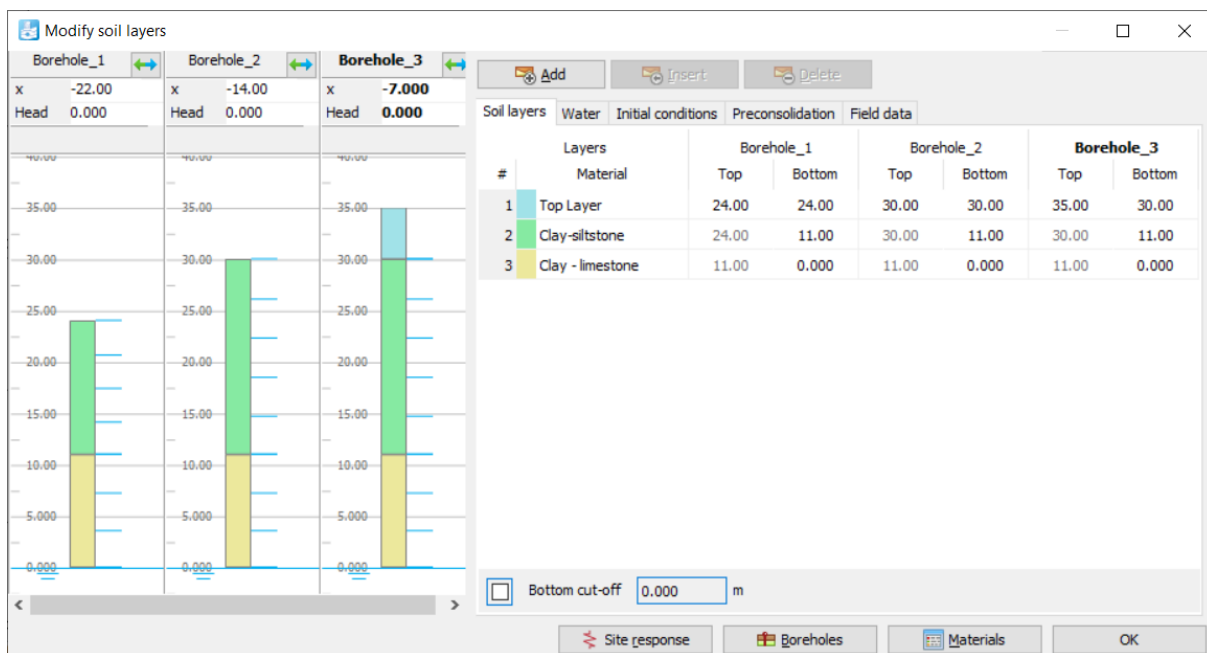
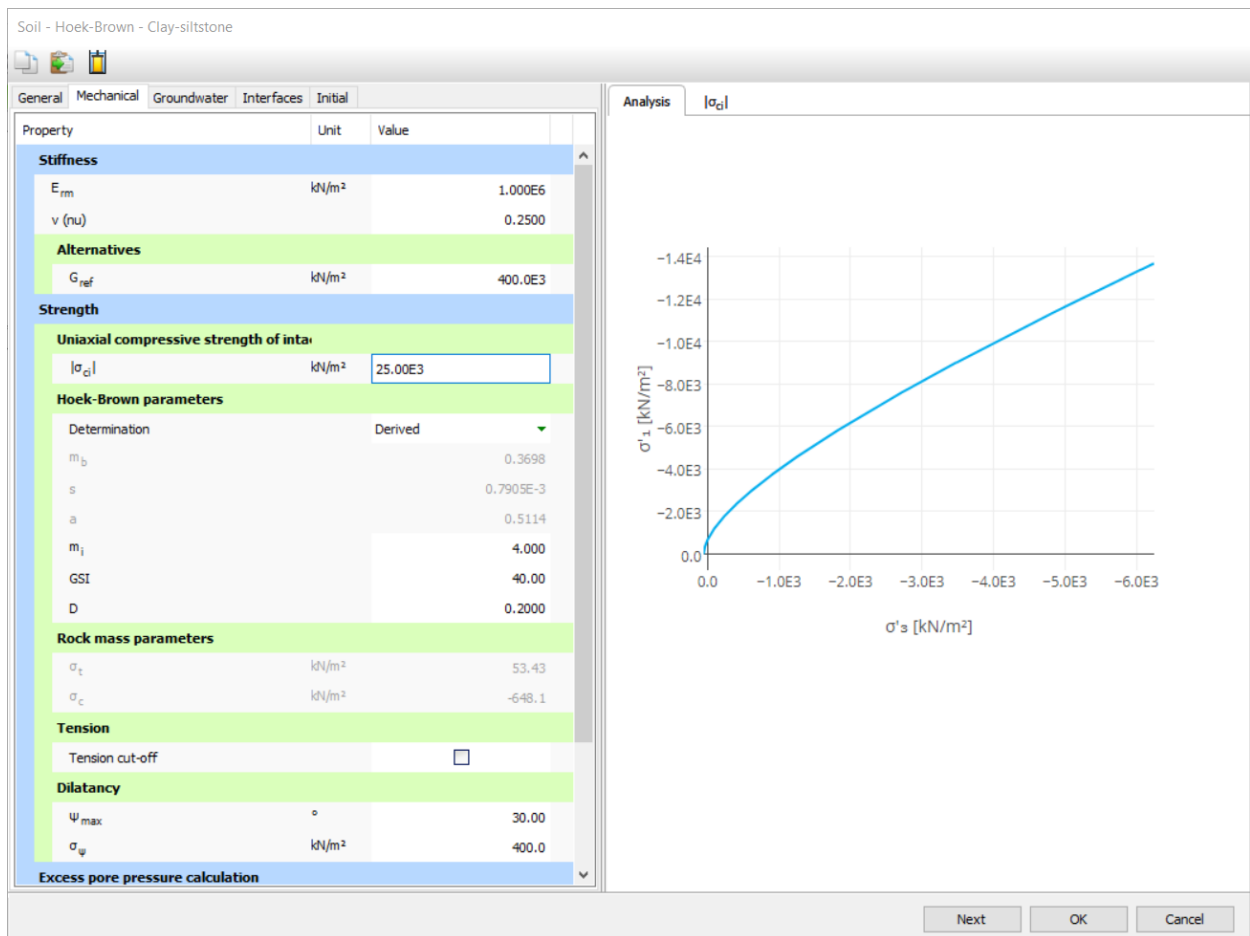

Figure 67: Soil layer distribution
Figure 68: Mechanical Parameter
10. Specify the soil layer distribution as shown in Figure 67 (on page 91).
1. Create soil material data sets according to Table 11 (on page 91) and assign them to the corresponding layers Figure 67 (on page 91) and while assigning the values for soft rock layers as per Table 12 (on page 92), find the analysis for various parameters after expanding the window one of which is shown in Figure 68 (on page 94).